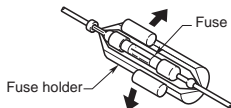

Figure 9
3. If the fuse should blow, check that the wiring is correct. If it is, replace the fuse with a new one with the same amperage rating as the original one. (Figure 9)